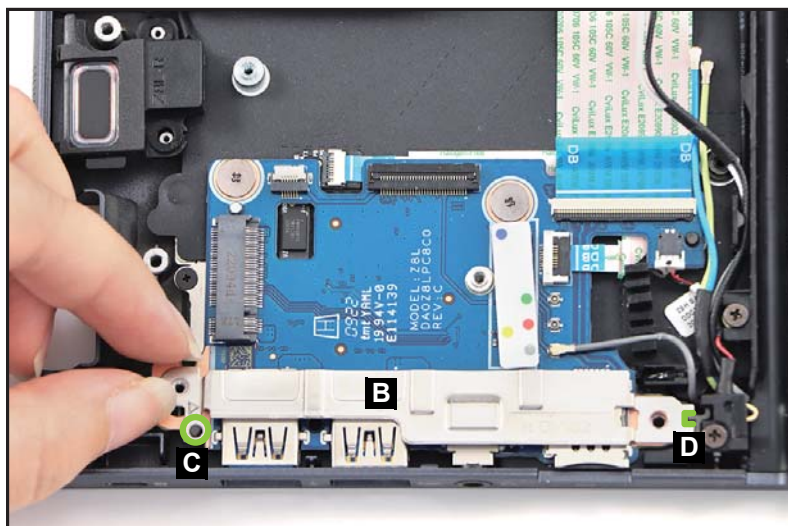

Figure 1-28. LTE Board Removal
2. Release the I/O bracket (B) from the guide pin (C) and guide tab (D) (Figure 1-28). Then remove the bracket.